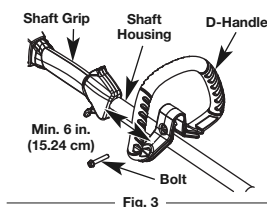

Fig. 3
1. Push the D-handle down onto the boom (Fig. 3), so that the bolt hole in the D-handle is to the right.
2. While holding the unit in the operating position (Fig. 3), move the D-handle to the location that provides the best grip. Place it a minimum of 6 inches (15.24 cm) from the end of the shaft grip.
3. Tighten the bolt until the D-handle is secure. (Fig. 3)